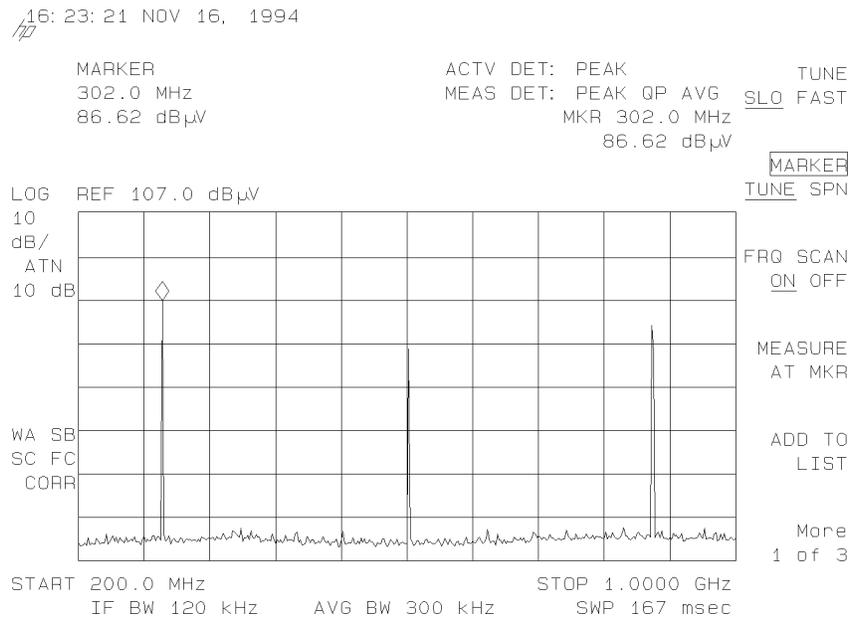

Figure 1-3. Placing the Marker on a Signal
4. Press **(TEST)**. **MARKER** is now displayed in the active function block, and the **MARKER** softkey label appears in inverse video to indicate that the marker is the active function. Place the marker on a signal by pressing the down **(▼)** keys. Refer to Figure 1-3.